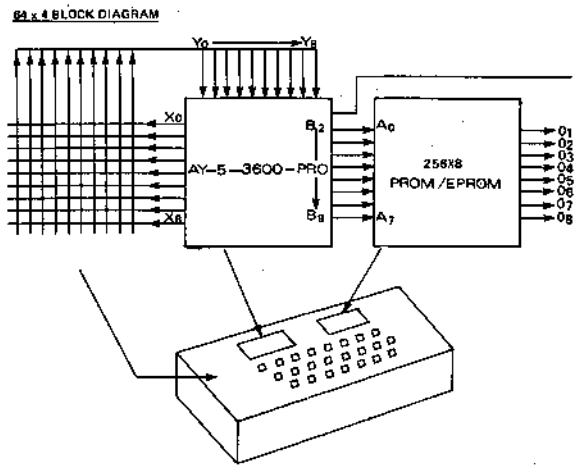

Fig. 8 84 KEY 4 MODE KEYBOARD APPLICATION
The 64 key 4 mode application as illustrated in Fig. 8 utilized keyboard encoder addresses X0 Y0 thru X6 Y3. A unique combination of one input (Y) and one output (X) is assigned to each key, for a total coverage of 64 keys. Binary coded outputs B2-B9 have been arranged to provide the necessary 8-bit address inputs to the PROM/EPROM, with B2 and B3 representing the variable mode identification and B4-B9 each specific key closure.